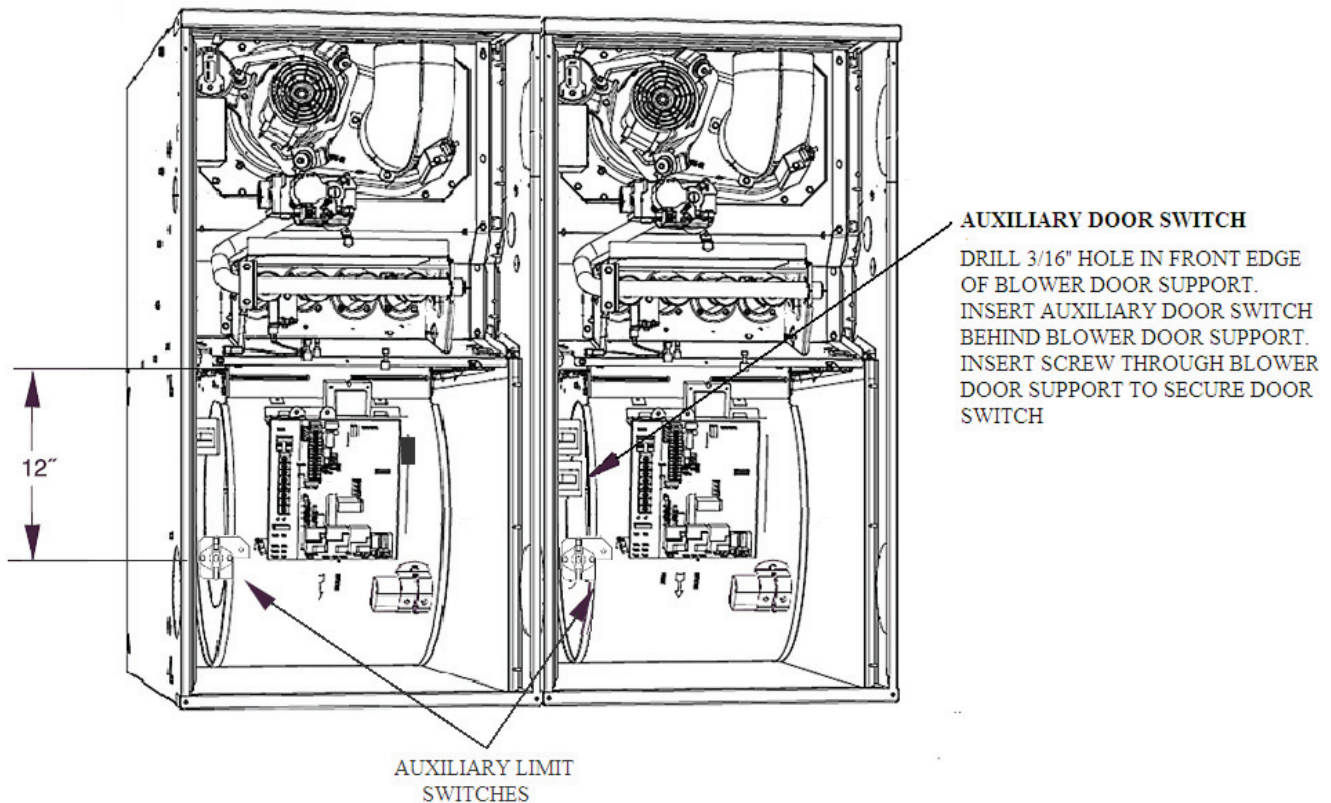

Fig. 13 - Auxiliary Door Switch
- a. Drill 1/8-in. hole in blower housing 12 in. (305 mm) below blower shelf. (See Fig. 13.)